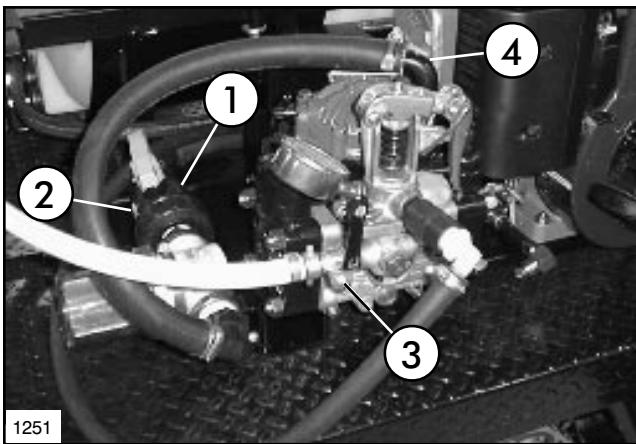

FIG. 5
- Apply thread sealer and attach the 1-1/4" Ball Valve into the inlet port of the Suction Strainer using (1) 1-1/4" close nipple. See FIG. 5.
- Attach other end of Spray Gun Hose to 1/2" Ball Valve in Pump. See FIG. 5. Wrap Spray Gun Hose around Hose Hooks when not in use.
- Install (1) 1/2" x 90° Hose Barb into the front port Pressure Relief/Adjustment Valve using (1) 1/2" Close Nipple and Coupling. See FIG. 5.